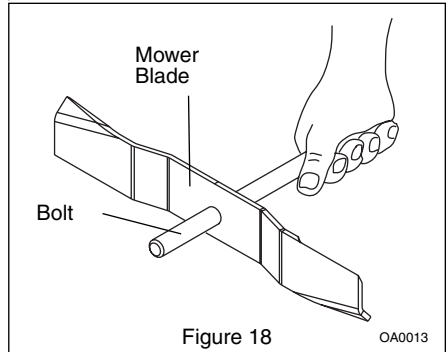

Figure 18
3. Check mower blade balance by sliding mower blade on an unthreaded bolt. If blade is balanced, it should remain in a horizontal position. If either end of mower blade moves downward, sharpen the heavy end until mower blade is balanced (figure 18).